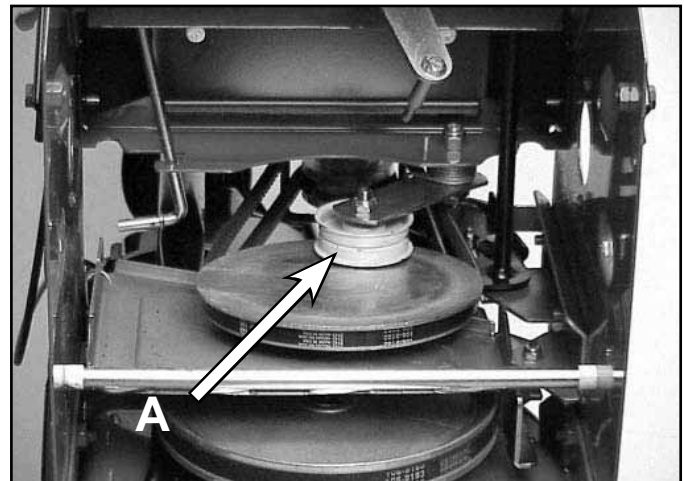

Fig 109 MVC-1003X.jpg
12. Slip the traction idler off the traction belt. This can be done from either the top or the bottom. The traction idler will rotate to this position (Fig. 109).